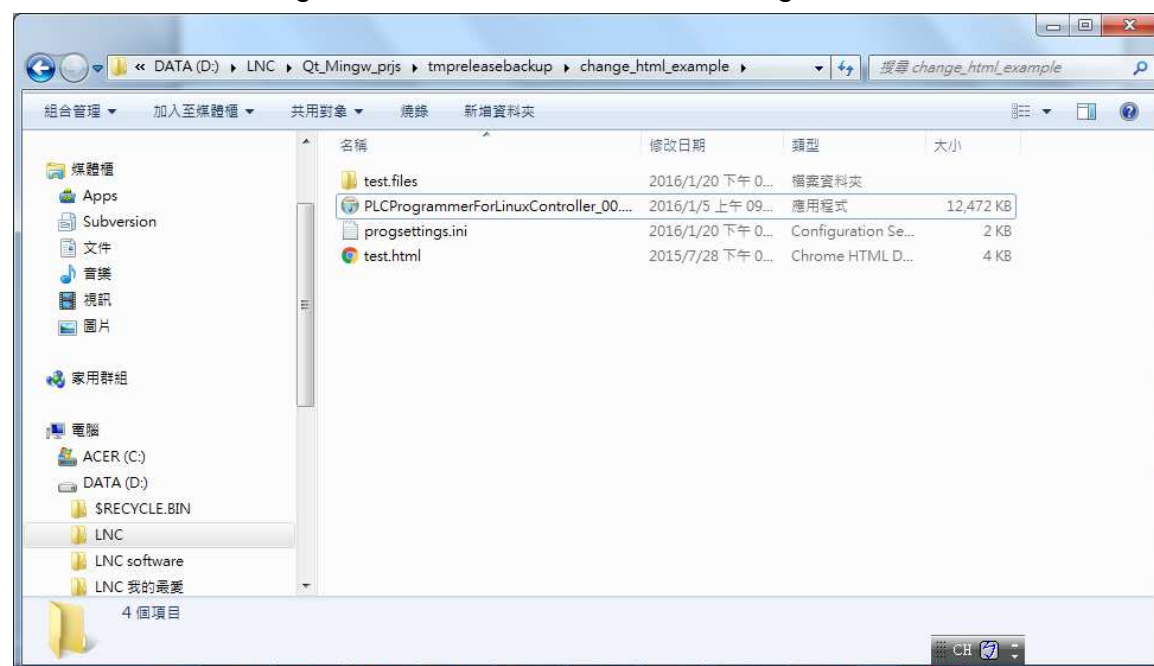

Fig. 144 Customize the Start URL
- Put the following files within the same folder as Fig. 144.